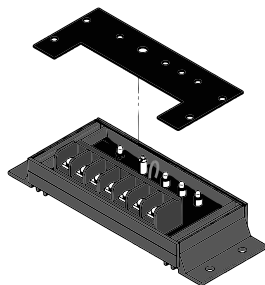

Figure 2c. Remove faceplate.
2. Gently pry the faceplate off the Controller. Occasionally, epoxy encapsulant will cause the faceplate to stick. Use a small flat-head screw driver to separate the faceplate from the Controller body. See Figure 2c.